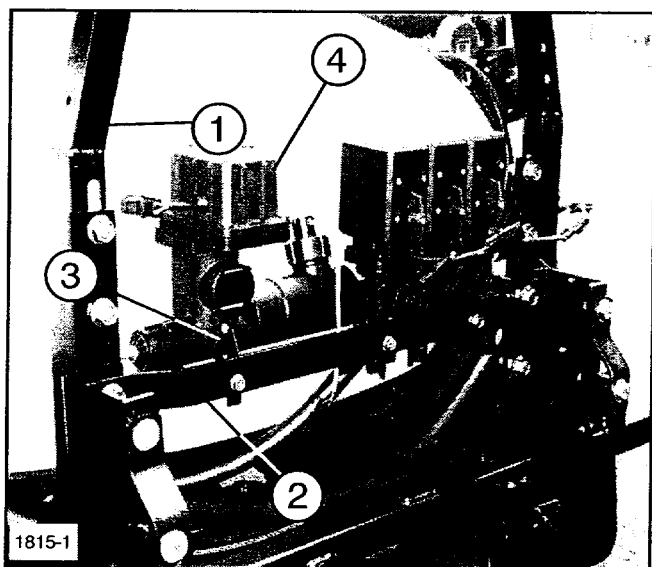

FIG. 4
6. Install the Control Valve Assembly to the Valve Mounting Bar with three (3) 5/16" hex head cap screws. (See FIG. 4, page 13)